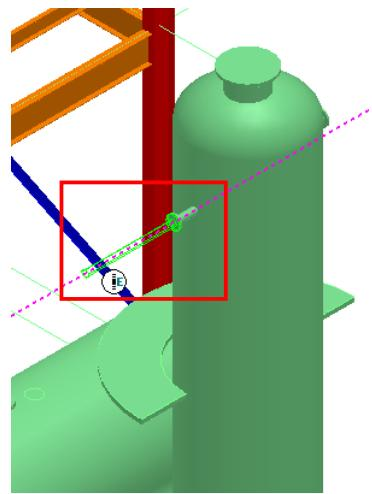

Figure 10: Placed Pipe
44. Move the cursor towards the left until SmartSketch displays the E glyph, as shown in Figure 10. The E glyph indicates that you are routing the pipe in the West direction. Click in the graphic view to place the pipe.